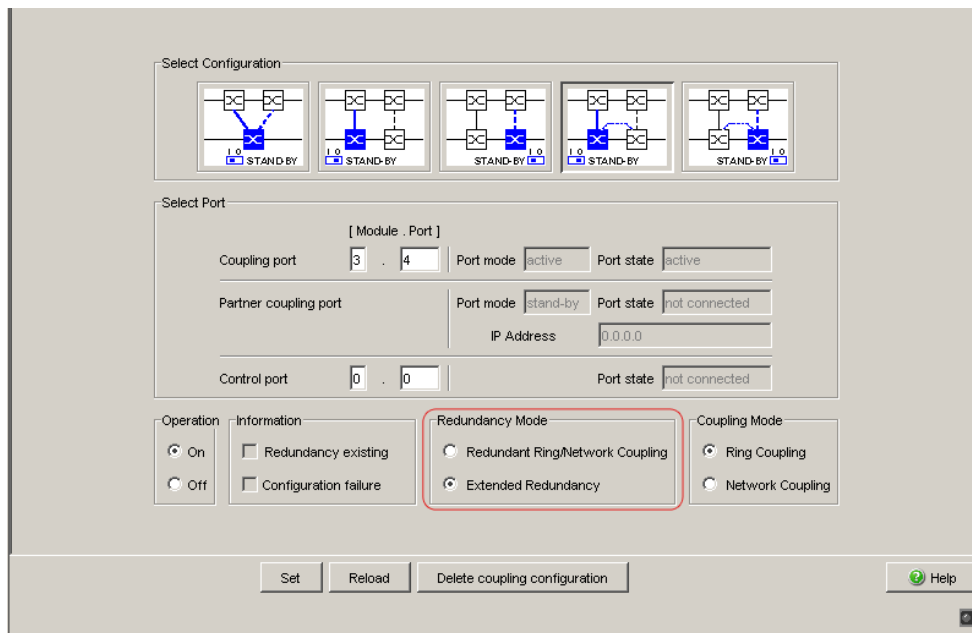

Figure 40: Selecting the redundancy mode
- ☐ In the “Redundancy Mode” frame, select (see fig. 40)